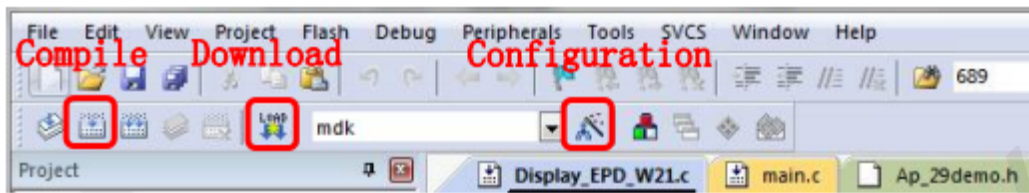
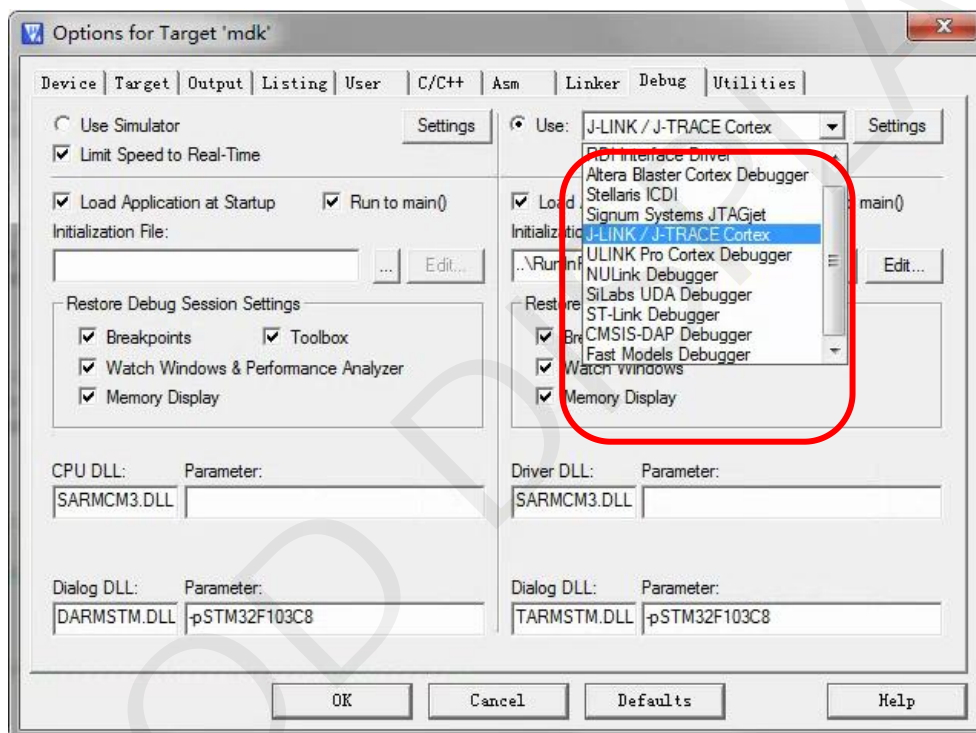
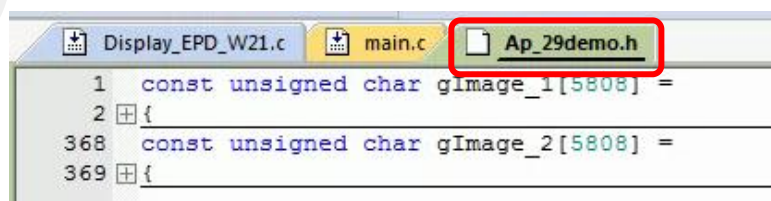

Figure 8 : Keil4 toolbar
Figure 9 :Choose the simulator model
Figure 10 :change the image data
3) The Keil4 toolbar is shown in Figure 8. Please click  at the first time using the simulator and a box like Figure 9 will pop up. Choose the simulator model of yours in the "Debug" bar, and click "OK" to confirm.
4)Click Ap_29demo.h in Figure 10 to change the image data that needs to be displayed(the image data needs to be achieved by image2lcd).
5)Click  in the toolbar in Figure 8 to compile.
6)Click  in the toolbar in Figure 8 to download.
9) If you want to change a image, you need to use Keil4 to change the image data (Figure 10), compile it (Figure 8) to generate a new mdk.hex file, and then re-select the file to download it.